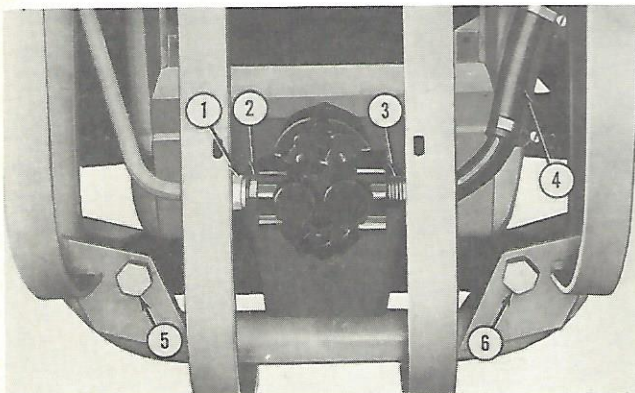
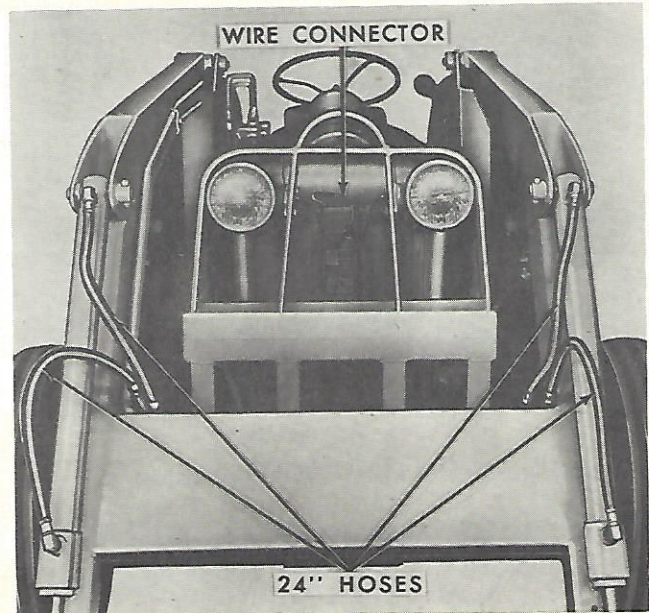

Figure 13
Figure 14
4. Attach the front of the loader frame to each side of the pump mounting plate as shown at (5) and (6), Figure 13, with the two 1" x 4-1/2" hex head bolts and lock nuts.
5. Install the 37° flare fitting and "O" ring in the pump at (2), Figure 13. Connect the pump pressure tube (1) to the flare fitting.
6. Apply M-5837-B Thread Sealer Compound on the threader of the inlet elbow and install the elbow in the pump as shown at (3), Figure 13.
7. Install the hose (4) and the hose clamps on the pump inlet elbow and return tube as shown. Slide the filter to pump tube forward as required to obtain hose clearance at the step plate. Rotate the elbows to provide proper hose alignment.
8. Apply thread sealer compound on the threads of the bucket cylinder hoses and install the hoses as shown in Figure 14.
14. Install the headlights on the loader frame as shown in Figure 14.
15. Re-route the original headlight wire through the tractor grille. Connect the headlight wires with the connector provided as shown in Figure 14.